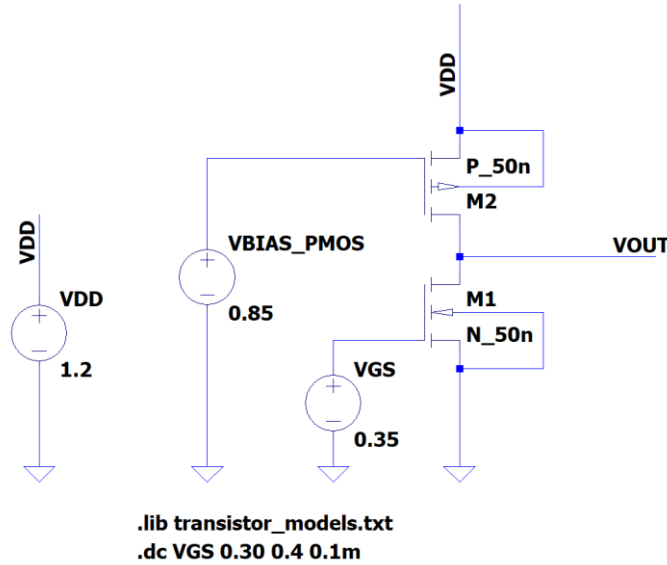

Figure 2.8 CS Amplifier with a PMOS as Current Source Load
Let's simulate a given setup first then work backwards for designing CS amplifiers with current source loads. Figure 2.8 shows the schematic that we will use later. The PMOS is sized such that $W = 30 \text{ } \mu\text{m}$ and $L = 1 \text{ } \mu\text{m}$ while the NMOS is sized such that $W = 10 \text{ } \mu\text{m}$ and $L = 1 \text{ } \mu\text{m}$. We'll extract the small-signal parameters at the given bias, then we'll try to compute the effective gain and prove it by a V_{OUT} vs V_{IN} simulation. Take note that in the succeeding steps, we are expecting you know how to extract g_m and r_o already.
1. Go ahead and open "lab07_cs_amp.asc". This is the same schematic in Figure 2.8.